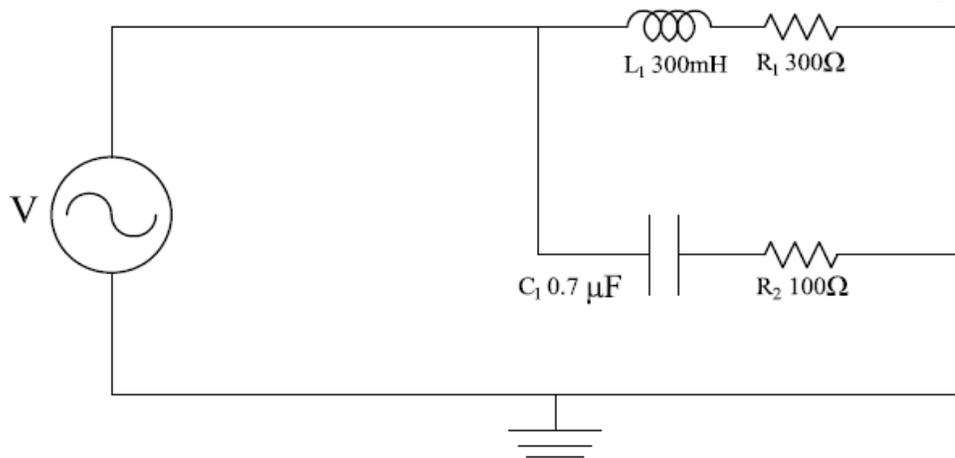

Fig.2: experimental circuit of part 1
1. Connect the resistance and inductance in series as shown in Fig.2